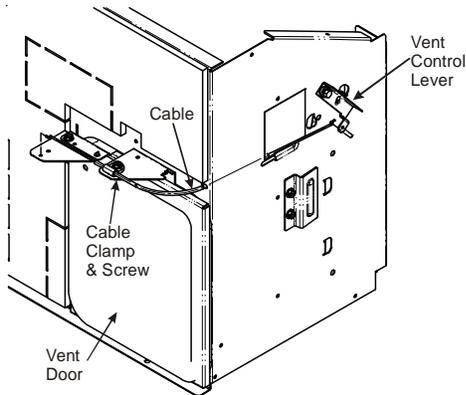

Figure 3
4. Disconnect the cable from the vent door by partially closing the vent door and slightly bending the end of the cable while pulling the Z-shaped end out of the hole in the top of the door (Figure 3).